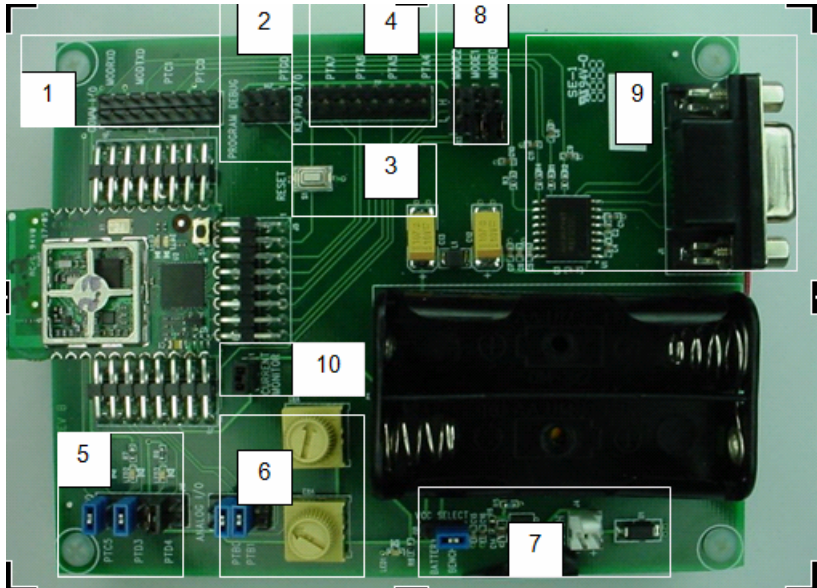

Figure 3: Interface Evaluation Board with Wi.Freestar Module inserted in Socket
1. Press white reset button on Interface Board (See Figure 3 location 3) and black button on Wi.Freestar module simultaneously.
- Header that allows the user to monitor the serial TX (MODTXD) and RX (MODTXD) data lines from section 9 as shown in Figure 3 above. The header also provides quick access to Port C pins 0 and 1 on the microprocessor.